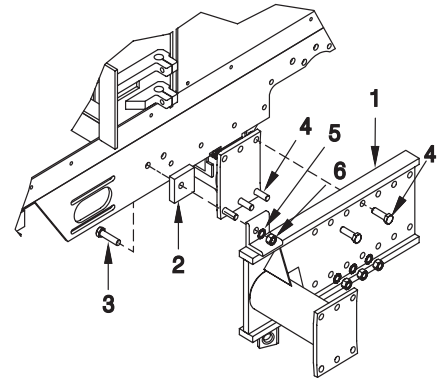

Figure 2-3-3 - Mounting Tandem Wheel Plate
A. (See Figure 2-3-3) Place (3) Item 4 Bolts through the axle. Place (1) Item 3 bolt through frame. Place (1) Item 1 Tandem Plate and (1) Item 2 Spacer as shown. Place the rest of the bolts, star washers and nuts so the tandem plate and spacer are secure. Torque all nuts and bolts as per torque chart on page 2-3-1.